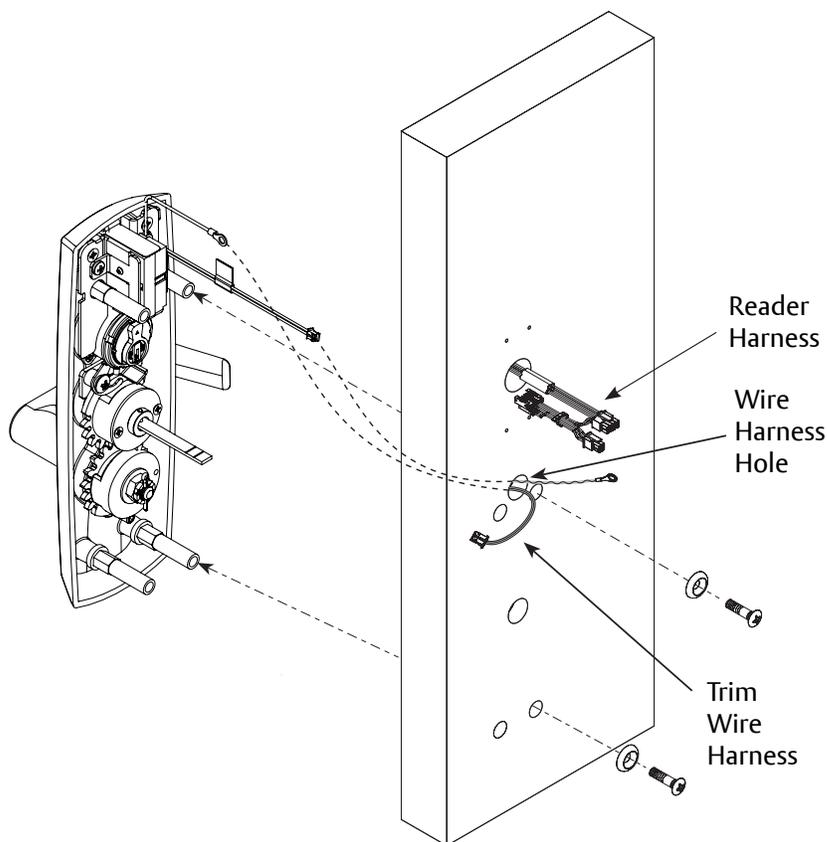

Figure 10
2. Feed trim wire harness through wire harness hole (Figure 10).
4. When mounting trim, lift tailpiece to pass through hole on device side (Figure 10).
5. Fasten trim assembly to door using (2) 1/4-20 oval head screws and (2) finish washers (Figure 10).